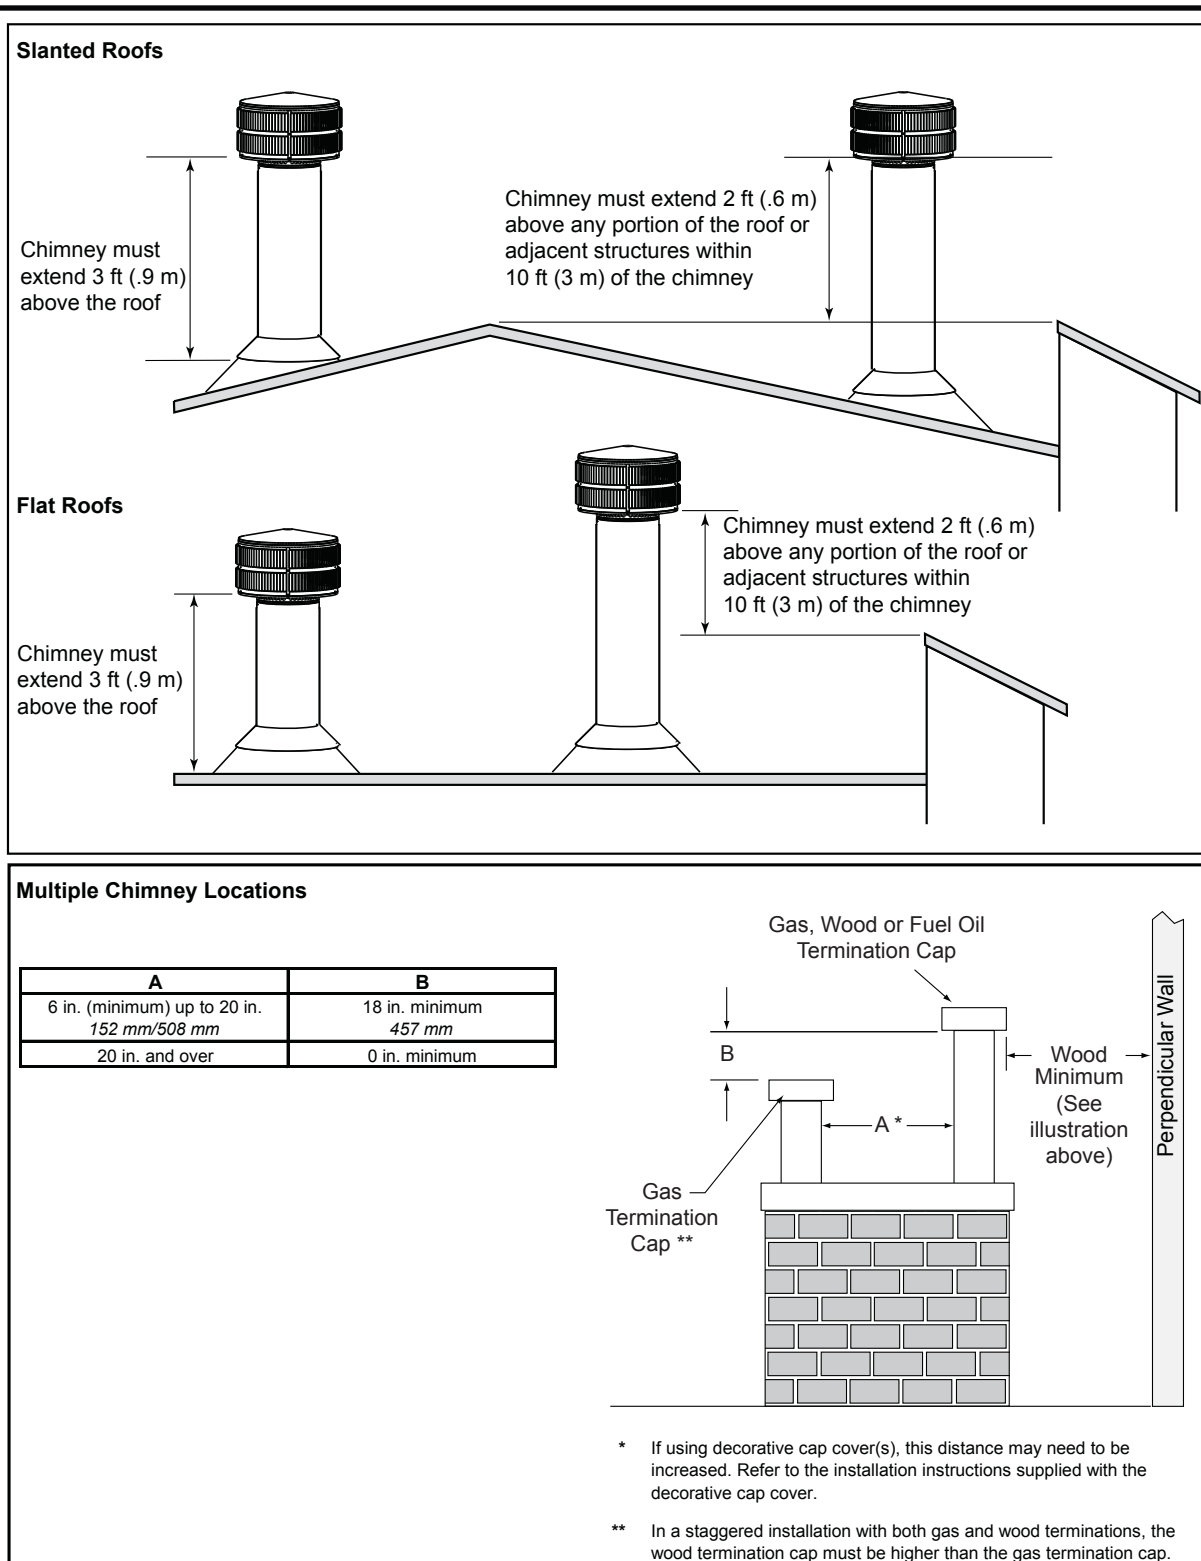

Figure 8.19 Multiple Chimney Locations
- The bottom of the termination cap must be at least 3 ft (.91 m) above the roof AND at least 2 ft (.61 m) above any portion of roof within 10 ft (3.05 m) as shown in Figure 8.19.
- See Figure 8.19 for distance required between caps.